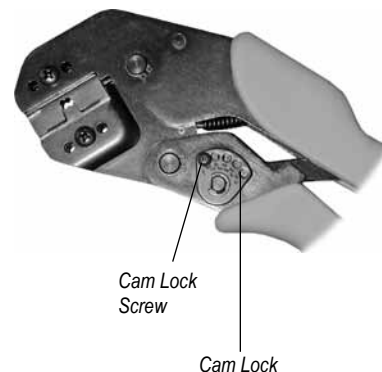

Figure 6
1. To adjust tool to obtain proper crimp force values, open the handles and remove the cam lock screw with a hex key wrench supplied. (See Figure 6)